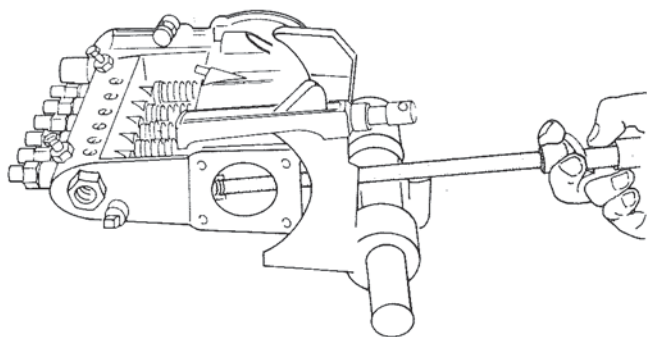

Figure 44. Installing Plungers.
7. Install plungers into barrels, using plunger clamp, Special Tool No. 95905-01030, Figure 44, so mark on driving face is up toward side of cover (control groove side).